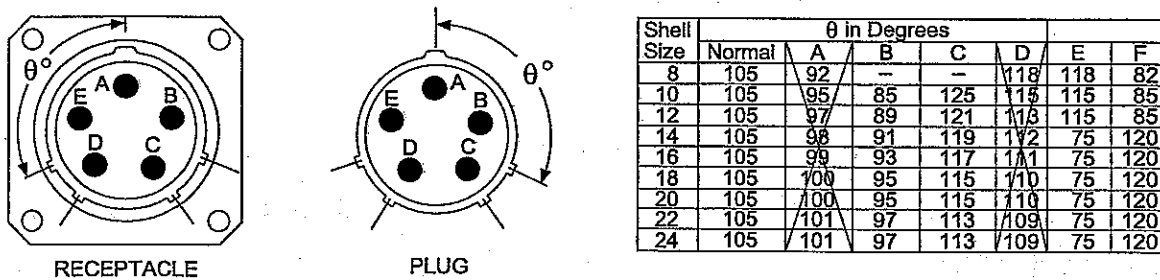

Fig 3 Keyway orientations
6.1 Connectors provided with key/keyway orientations B, C, E and F have minor keys/keyways that are in different angular positions relative to the main polarising key/keyway. The angle θ Fig 3, varies for each orientation position and shell size, and is measured clockwise for plug shells and counter clockwise for receptacle shells.